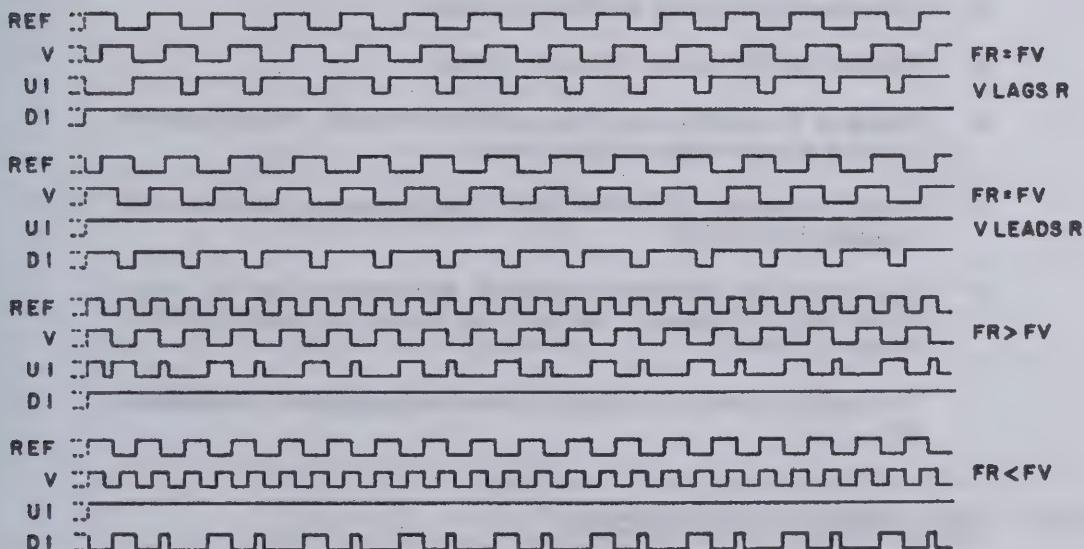

Figure 4-18. Phase Detector Timing Diagram
3. **Phase Detector U5** - Check for 40 kHz signal at input pin 3 of U5. If signal is not present, troubleshoot Time Base Circuits. Check for 40 kHz signal at pin 1 of U5. If not present, troubleshoot 1st LO counter circuits. Refer to Figure 4-18 to understand the function of the phase detector.
3. Operation of U22 - Observe inputs (pins 1 and 3) and output voltage (pins 2 and 13) and compare to Figure 4-18. If a difference exists, replace U22. A normal value for the output (pin 8) is 2.0 to 3.0 Vdc.